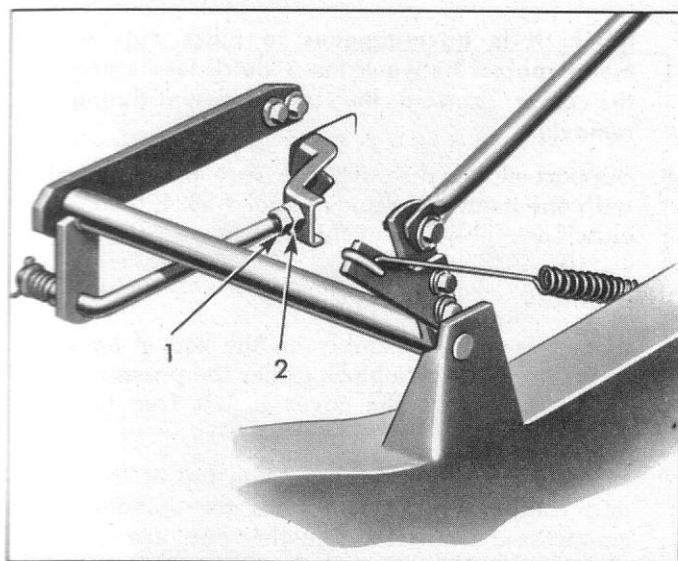

Fig. 4—Free Pedal Adjustment (55-57)
1. On 1955, 1956 and 1957 Corvettes (fig. 4).
- a. Loosen jam nut (1), then turn adjusting nut (2) until all lash is removed at clutch fork.
- b. Shorten the rod two turns of the adjusting nut and tighten jam nut (1).